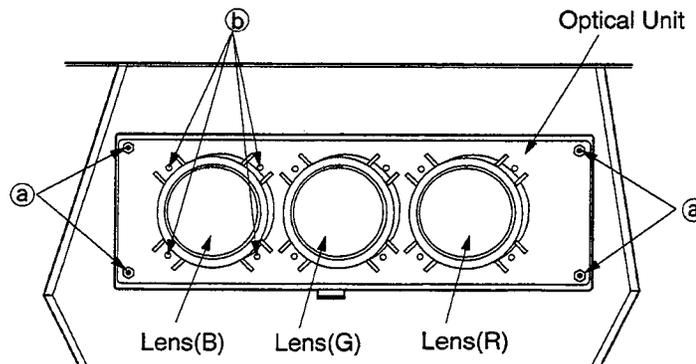

Fig. 6-1
12. Remove 4 hex-screws (a) retaining the Optical Unit. [Fig. 6-1]
13. Remove 4 screws (b) retaining the Lens. [Fig. 6-1]
3. Install the Lens, removed in steps 13 and 14 of Removal of the CRT. [Figs. 6-1, 6-2]
- 2) Install the mounting screws, refer to Fig. 6-1.